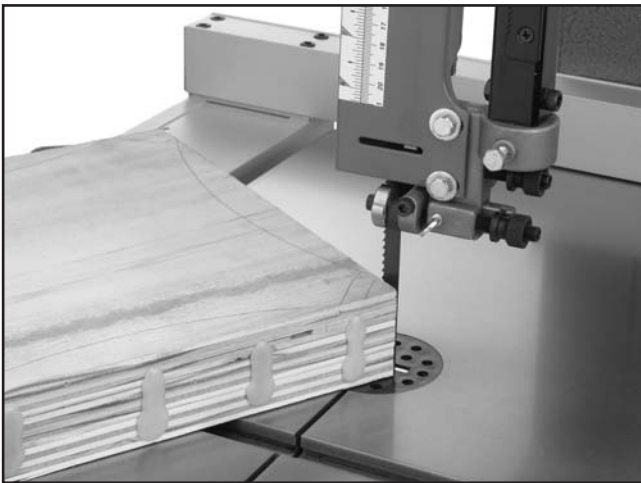

Figure 33. Cutting multiple pieces at once.
- Cut the stack of pieces as though you were cutting a single piece. Follow your layout line with the blade kerf on the waste side of your line as shown in **Figure 33**.